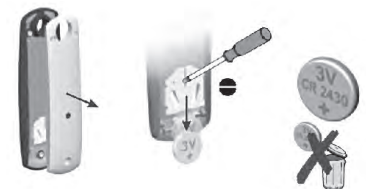

Fig. 4
a. Using a small screwdriver, loosen the screws on the reverse side of the remote control and remove the back cover. (fig. 4)
b. Replace the battery with one 2430 Lithium 3V battery. (fig. 4)